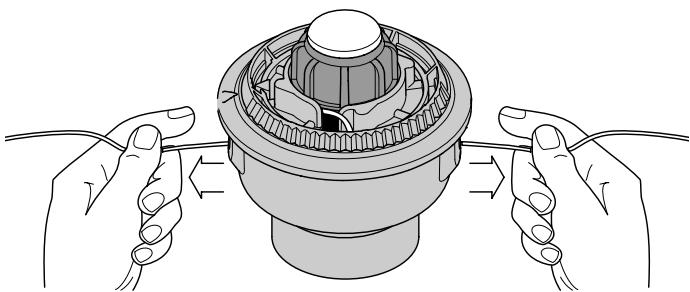

Fig. 19
9. If winding the line becomes difficult or the line jams, pull the ends of the line from the spool (Fig. 19). Continue winding the inner reel counterclockwise.
4. Hold the inner reel in place and install the bump knob, spring and foam seal. Press down and turn the bump knob clockwise. Grasp the ends and pull firmly to release the line from the holding slots in the inner reel (Fig. 19).
If the SpeedSpool® does not release line correctly, pull the ends of the line firmly from the spool (Fig. 19). If this does not release line, follow the *Cleaning the SpeedSpool®* instructions.